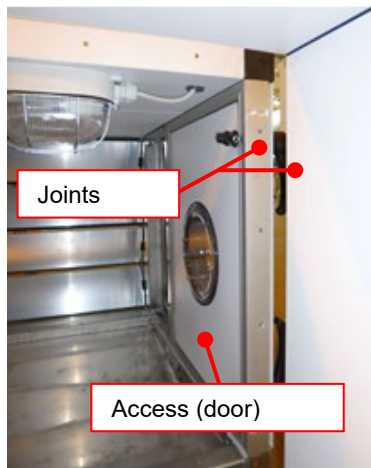
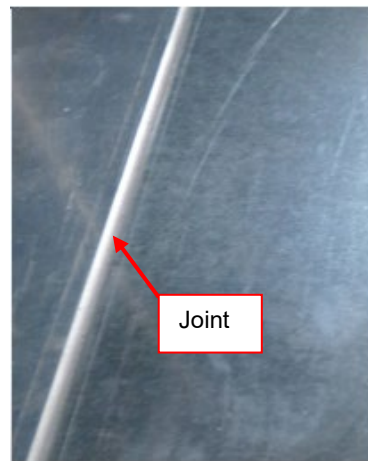

Figure 87: AHU separation accessible via door
Figure 88: Sealing the section connection (joint) with the sealing agent
2. If the AHU separation is **accessible at the inside via a door** (see **Figure 87**), then the joints (**Figure 88**) have to be closed over the entire outline with the supplied sealing agent (Sikaflex) after bolting together the delivery sections.